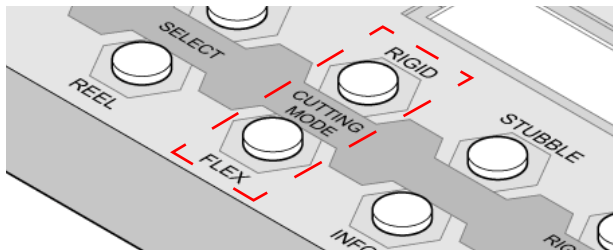

Fig. 47 - Cutting Mode Selection
1. Push the RIGID button on the automatrix display. (see Fig. 47 on page 37)